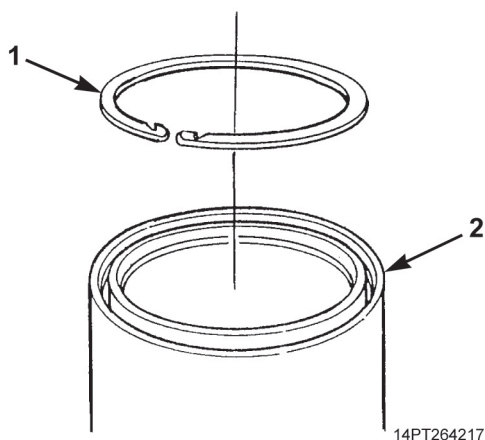

Figure 13. Retaining Ring Removal From Barrel.
19. Remove retaining ring (Figure 13, Item 1) from barrel (Figure 13, Item 2).